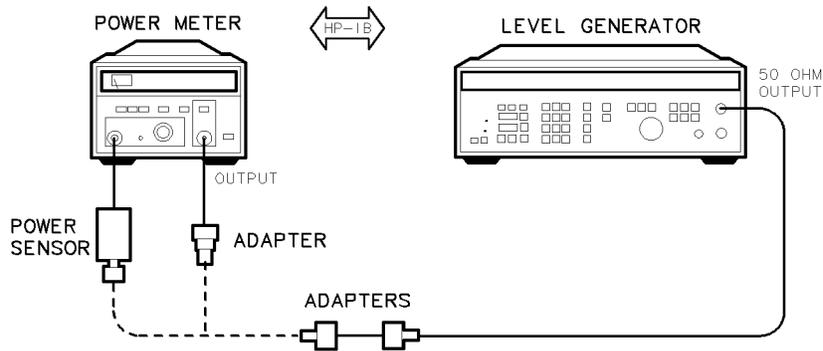

Figure 8-5. Reference Calibration Test Setup
1. **Reference Calibration** measures a reference signal and uses this signal to characterize the spectrum analyzer's 10 kHz bandwidth and log fidelity. Figure 8-5 shows the required calibration setup.